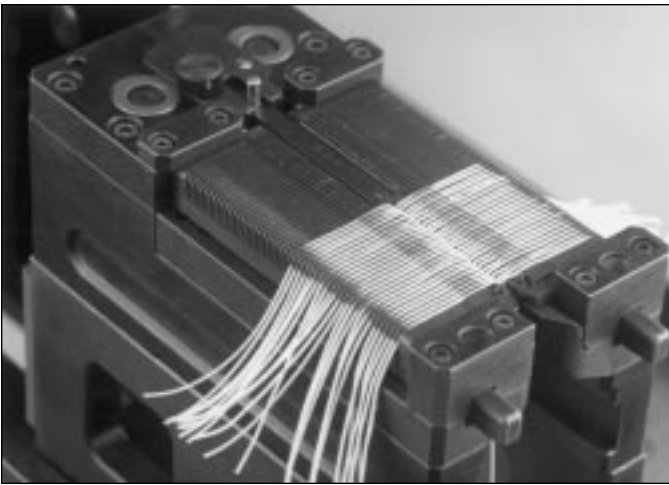

Figure 8. Wires in "U" slot cover
- D. Carefully untwist the first set of conductors. Push the first conductor to the back of the slot. Gently pull up and to the left to align wire with the groove in rear left of the cover and then down into the corresponding wire slot. Stretch it slightly and lay it into the grooved wire holding slot. Be sure the wire is properly seated into the "U" shaped cover (Fig. 8) by gently pushing it into the slot.